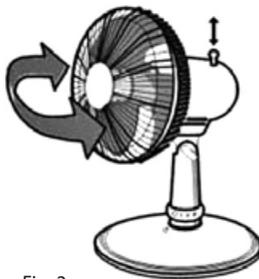

Fig. 2
6. By pulling out the oscillation selector you may turn off the oscillation during operation (Fig. 2). You turn the oscillation on by pushing this function selection switch.